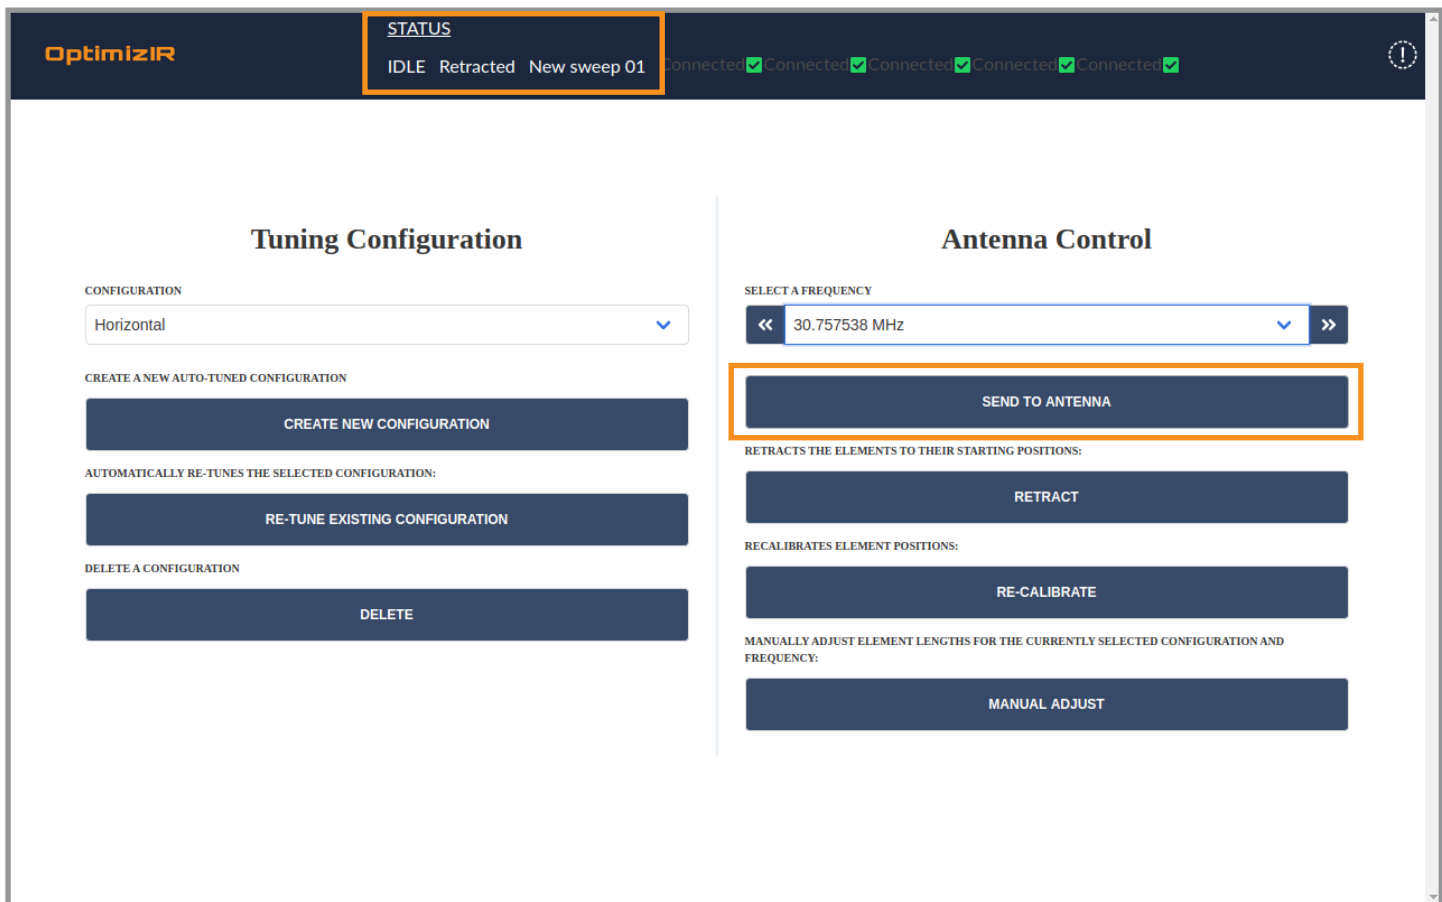

Figure 22
*Figure 22 shows the interface **before** pressing “SEND TO ANTENNA”. Though the selected configuration is “Horizontal” and the selected frequency is “30.757 MHz”, the Status Menu shows that the antenna is “Retracted”.*